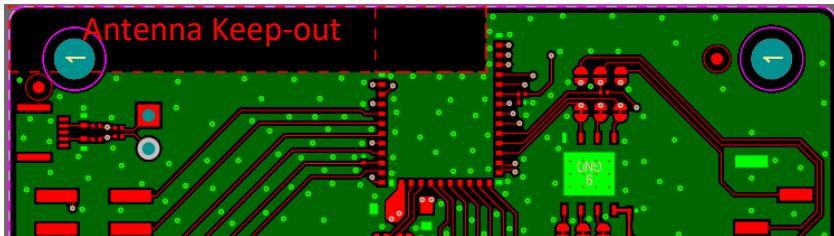

Figure 6: PCB trace Antenna keep-out area (shown in red), corner of the BL54L15 development board for the 453-00001 module.
- The BL54L15 development board (453-00001-K1) has the 453-00001 module on the edge of the board (not in the corner). The antenna keep-out area is defined by the BL54L15 development board which was used for module development and antenna performance evaluation is shown in Figure 6, where the antenna keep-out area is ~5mm wide, ~28.6mm long; with PCB dielectric (no copper) height ~1.57mm sitting under the 453-00001 PCB trace antenna module.
Figure 6 shows an example.